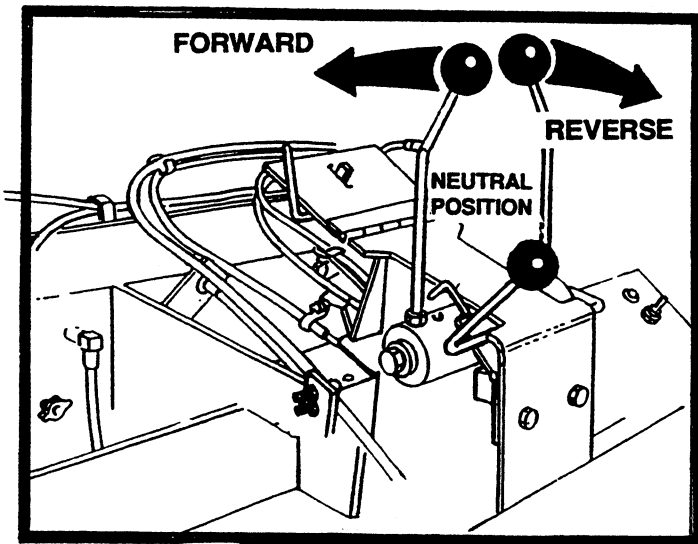

FIGURE 4
2. To drive the paver forward, push the steering levers together from the neutral position forward, likewise to drive to the rear, pull the steering levers toward the rear from the neutral position. Refer to figures 4 & 5.